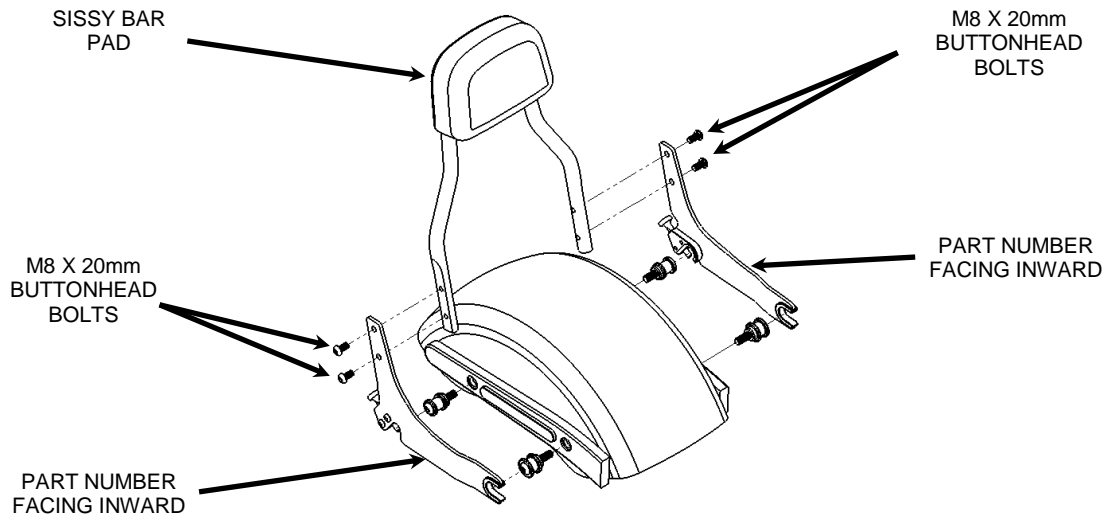

FIGURE 3
5. Install the supplied side plates on to the sissy bar with the four M8 X 20mm button head bolts. Make sure the u-shaped grommets are facing the same direction as the sissy bar pad and the part numbers are facing inward. See **FIGURE 3**. Snug the bolts but **DO NOT TIGHTEN** at this time.